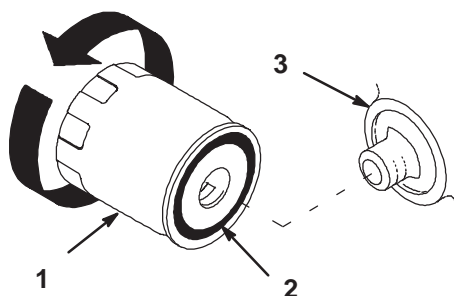

Figure 27
3. Remove the old filter and wipe the filter adapter (Fig. 27) gasket surface.
5. Apply a thin coat of new oil to the rubber gasket on the replacement filter (Fig. 27).
6. Install the replacement oil filter to the filter adapter. Turn the oil filter clockwise until the rubber gasket contacts the filter adapter, then tighten the filter an additional 1/2 turn (Fig. 27).